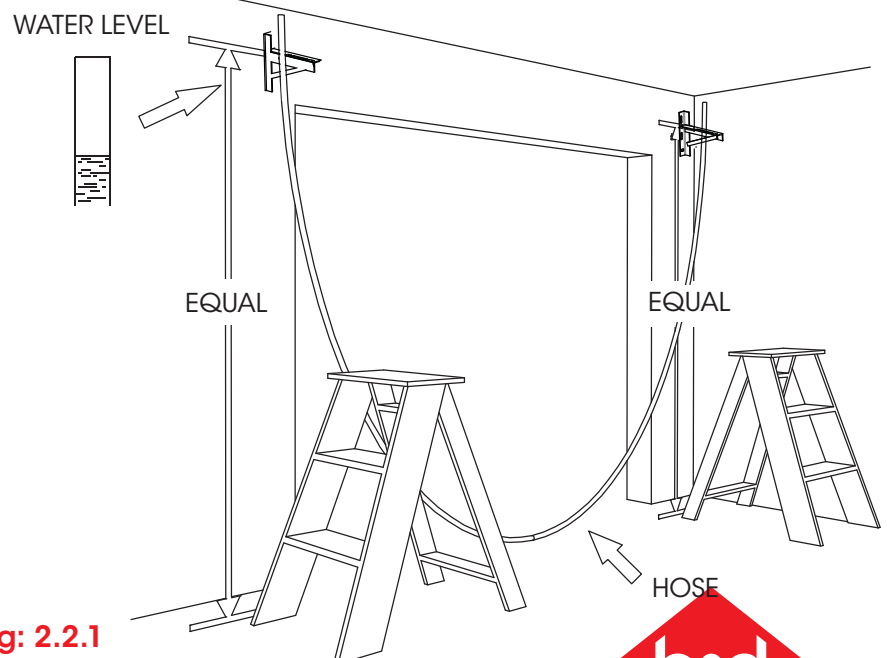

Fig: 2.2.1
- Using a water level mark the position for the second bracket (Fig 2.2.1)